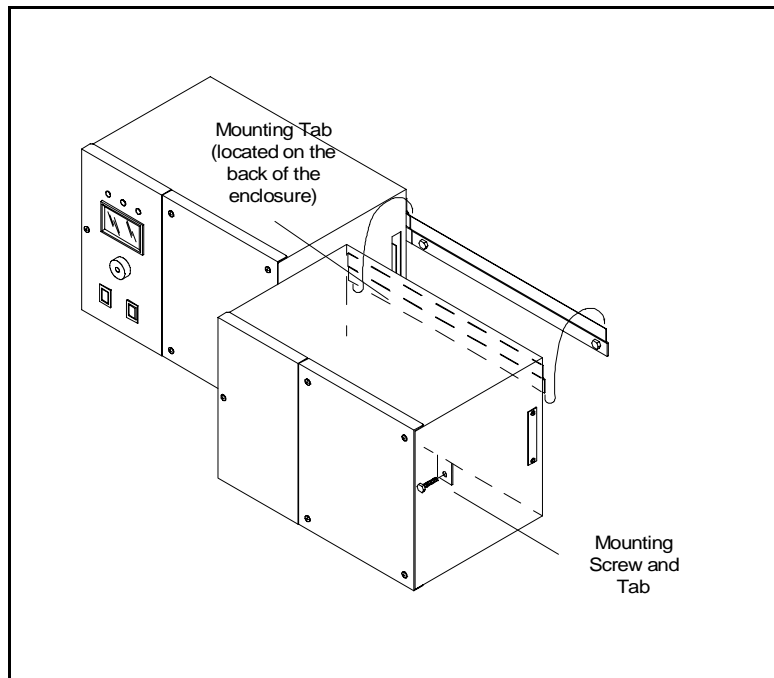

Figure 4 Hanging the 4-slot power chassis
Step 5: Hang the 4-slot power chassis on the second rail as shown in *figure 4*.